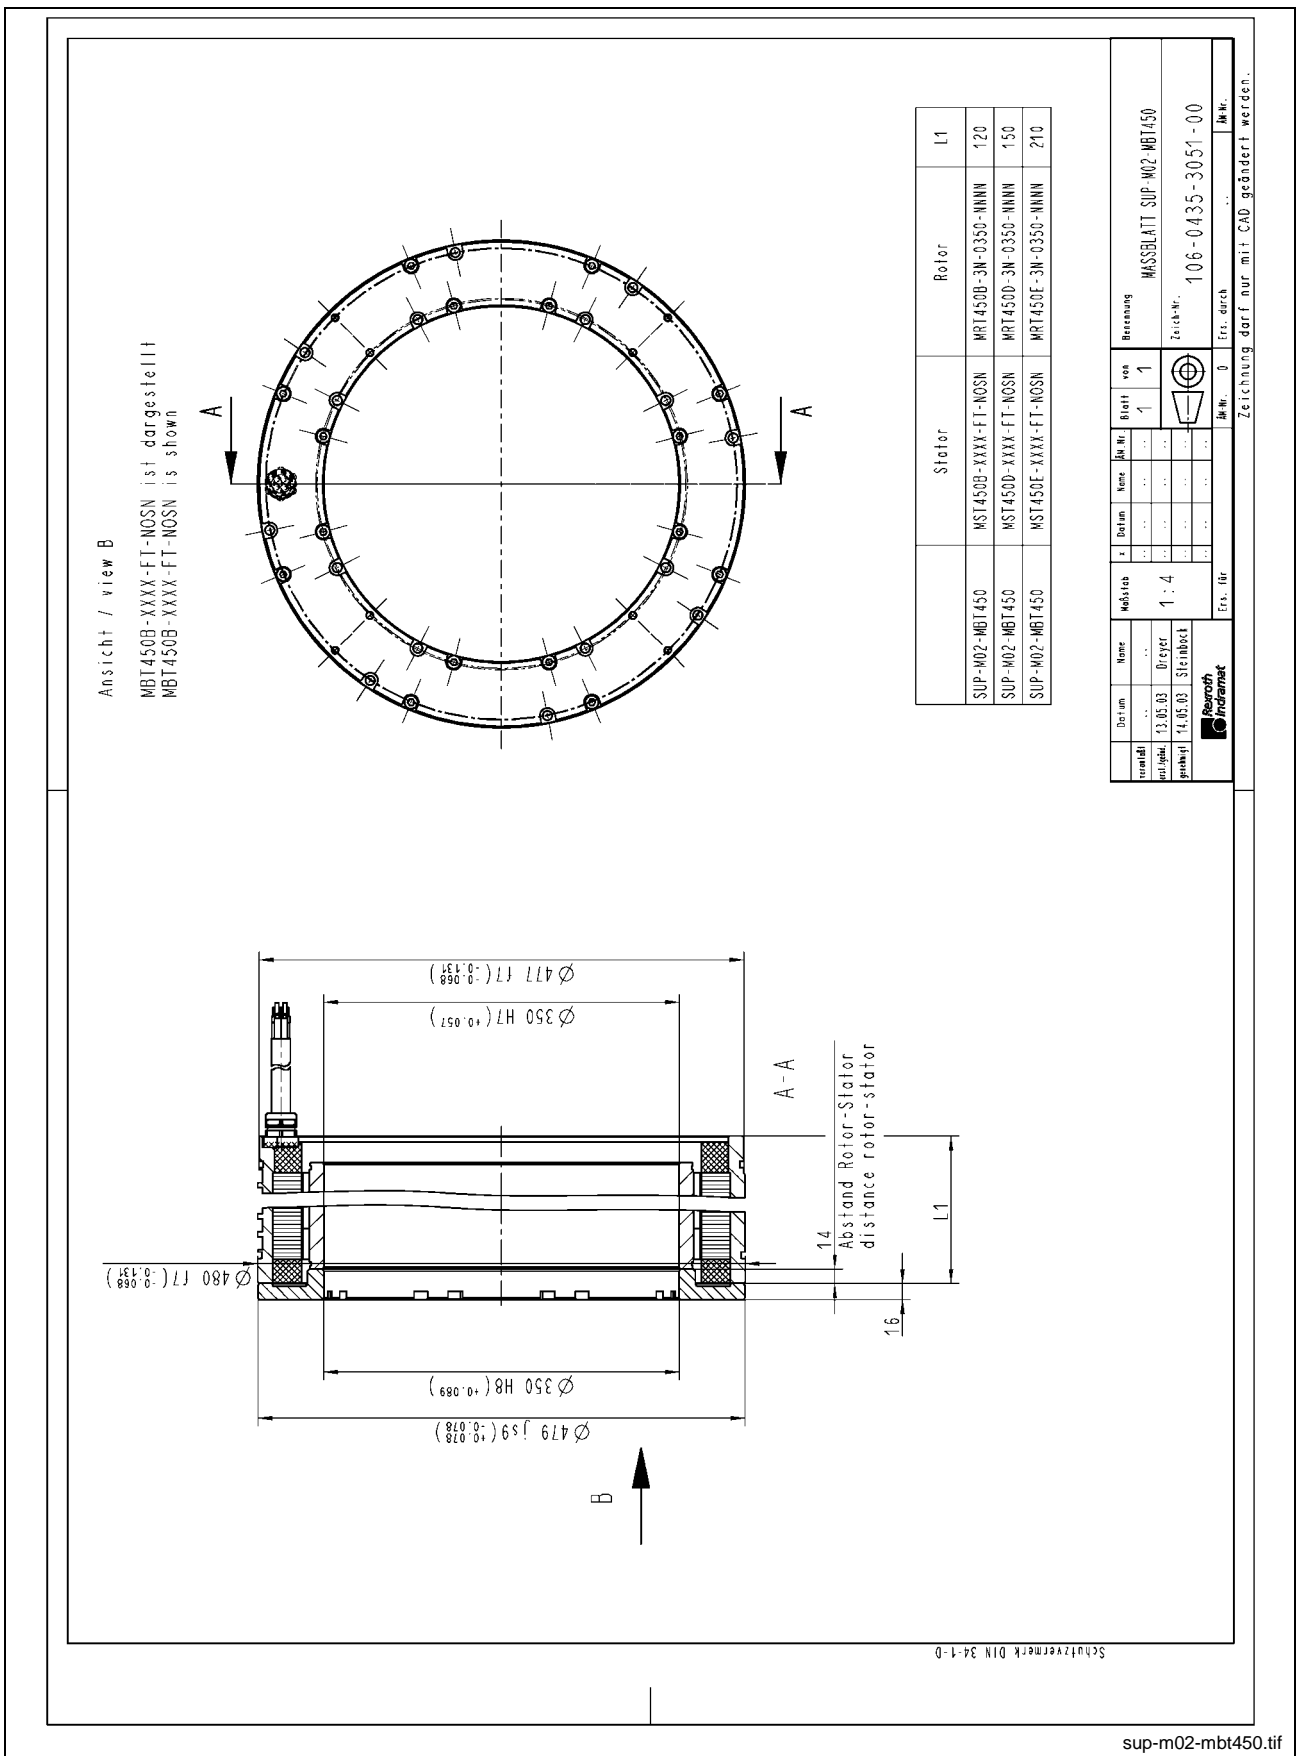

Fig. 7-3: Dimension sheet for mounting ring in SUP-M02-MBT450
- a pre-assembled mounting ring (see Fig. 7-3)